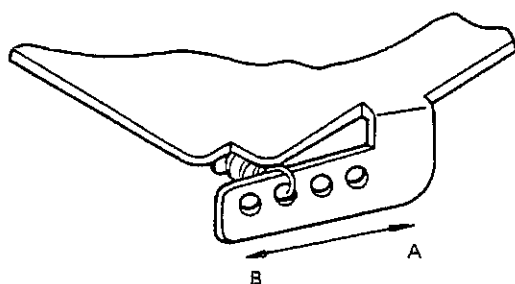

Figure 16
1. When the tape tension is less than 50 to 57 g.cm., rehook the spring in the direction of the arrow A in figure 16 and recheck.
2. Where the tape tension is greater than 50 to 57 g.cm., rehook the spring in the direction shown by the arrow B in figure 16 and recheck.